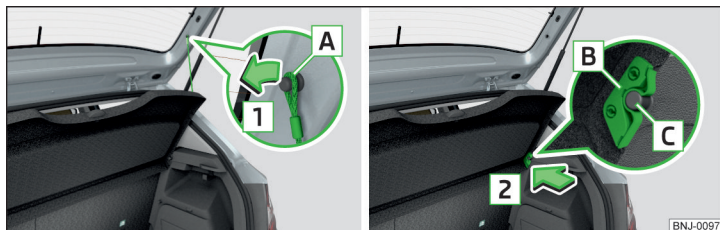

Fig. 86 Removing the boot cover
- Unhook the retaining straps **A** from the flap in the direction of arrow **1** » Fig. 86.
- Position the mounts on the cover **B** onto the side trim panel via pins **C** » Fig. 86.
- The holders **B** on the cover must be resting completely on the pins **C** on the side panel » Fig. 86.
If the support straps **A** » Fig. 86 are attached to the boot lid, then the boot cover will raise when the boot is opened.
In the front area, slots **B** » Fig. 86 on page 87 on the cover must be fully engaged with the bolts on the side trim. In the back, the cover must be secured at both ends under the latching.